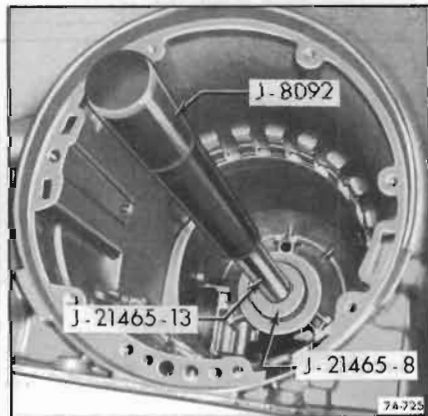

Figure 74-725
a. Thread Extension Handle J-21465-13 into Bushing Remover J-21465-8 using Drive Handle J-8092 remove bushing. see Figure 74-725.